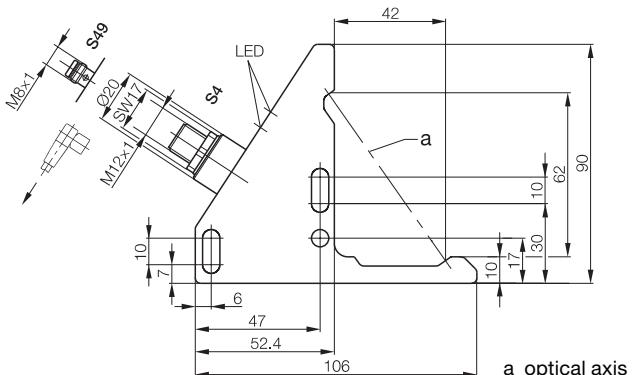

Fig. 2: Dimensions
1. Install the angle sensor so that the light path is not impeded (see Fig. 2, optical axis). The output is inactive. The green LED is on and indicates ready.